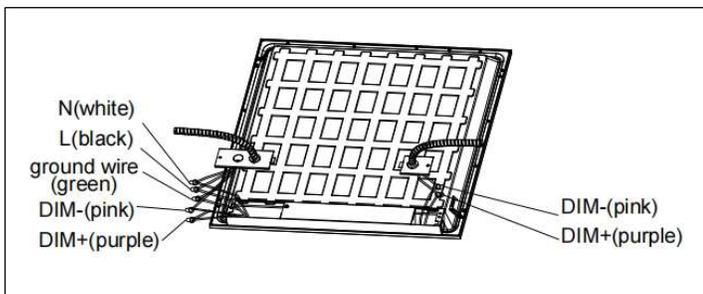

Figure 4
6. Using the open knockout bring in the supply line. Using wire nuts, attach the ground wire to the ground supply wire, the black (line) wire to the black supply wire, and the white (neutral) wire to the white supply wire. (Figure 4)